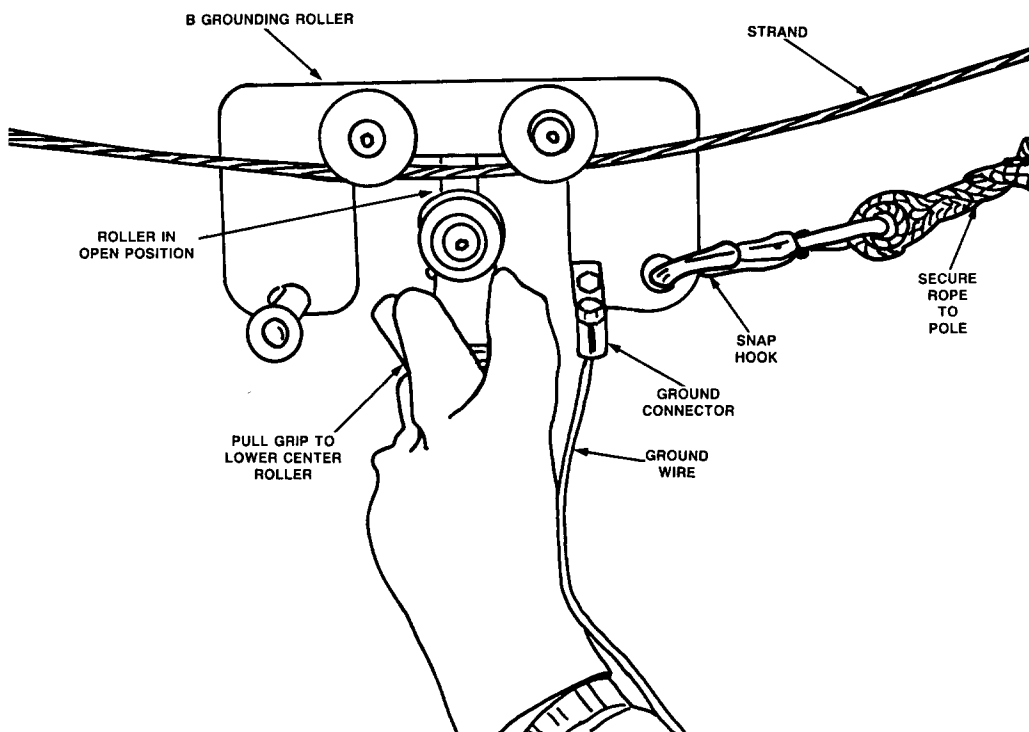

Figure 3 - Installing B Grounding Roller
- (b) Tie the rope to the pole and attach the snap hook to one of the frame holes of the roller as shown in Figures 3 and 4.
- (b) Attach one end of the number 6 ground wire to the connector (see Figure 3) of the grounding roller.
- (b) Compress the tensioning spring, forcing the steel shaft and center roller to the open position as shown in Figure 3.